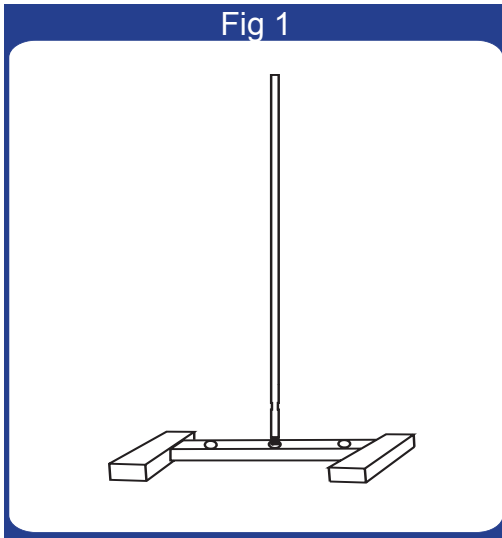
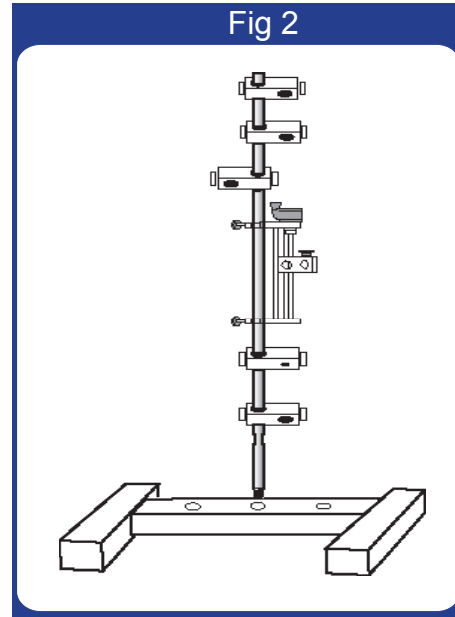

Fig 1
Fig 2
Place the tissue bath in the ring-clamp (f) and tighten, (be careful not to over tighten) and slide the ring-clamp handle in to the Stand Clamp, medium (red) located approximately 8" from the base. See (fig 1). Locate the glass hook and insert it in the Stand Clamp, small (yellow) located approximately 9" from base, Locate the isometric force transducer and slide the transducer head in to the transducer positioner. See (fig 2). Place the double ring-clamp around the reservoir, secure it, and slide in to the Stand Clamps, large (grey) located approximately 20" and 24" from base.
The transducer comes with an integral short, rigid mounting handle. To obtain maximum advantage of stiff beam characteristics of the transducer, it should be positioned and held in place with hardware that is as rigid as possible such that all the muscle forces are recorded (i.e. captured) and none are lost in extraneous deflections of the mounting hardware. The 159951 series of Radnoti Research Support Stands are the mounting hardware of choice. Their massive, durable construction will not deflect under load. The transducer itself should be positioned such that the output cable at the rear of the transducer ends up on the bottom (see Fig. 1 and 2).
The transducer has a short tissue mounting rod with a groove that projects from the front (see figure1). One end of a non-stretching string or wire must be formed into a loop and fastened into the groove on the shaft. The other end of the string or wire is subsequently attached to the muscle preparation. The wire or string from the beam must be directed through the slot in the splash shield without the final setup has been completed.
The transducer is equipped with a transparent, removable plastic shield which helps to prevent buildup of salts (i.e. corrosives) which may otherwise tend to accumulate on the transducer rod and migrate into the transducer circuit (see Fig. 1). In time, this salt buildup can deteriorate performance. The wire or string from the beam must be directed through the slot in the splash shield without touching the edges (see Fig. 1).
- The entire transducer is powered by a 12 volt AC wall transformer (see Fig. 2).
The range selector switch has two positions: 2.0 gram and 20.0 gram (see Fig. 2).
The OFFSET control enables the user to set a zero output voltage for any pre-load value (see Fig. 2). It is essentially a "Tare Control" device since it balances out static loads such as the weight of the muscle preparation prior to contraction and the support wire or string.